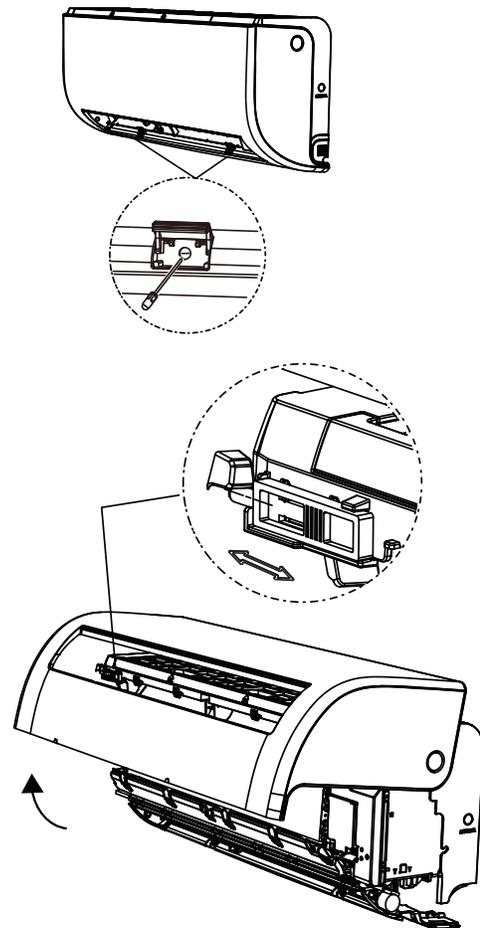

Fig. 15 — Panel Position
- b. Open and fix the position of the panel. First, unscrew the two screws (see Fig. 15), then open the panel, and fix the position of the panel by the latch.